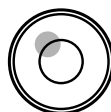

Fig.4.4
- 6) When using the spherical head tripod, slightly loosen the centering screw, hold the base plate ⑥ in both hands, and slide it across the tripod head until the bubble is in the proximity of the circular level ④. (Fig.4.4)